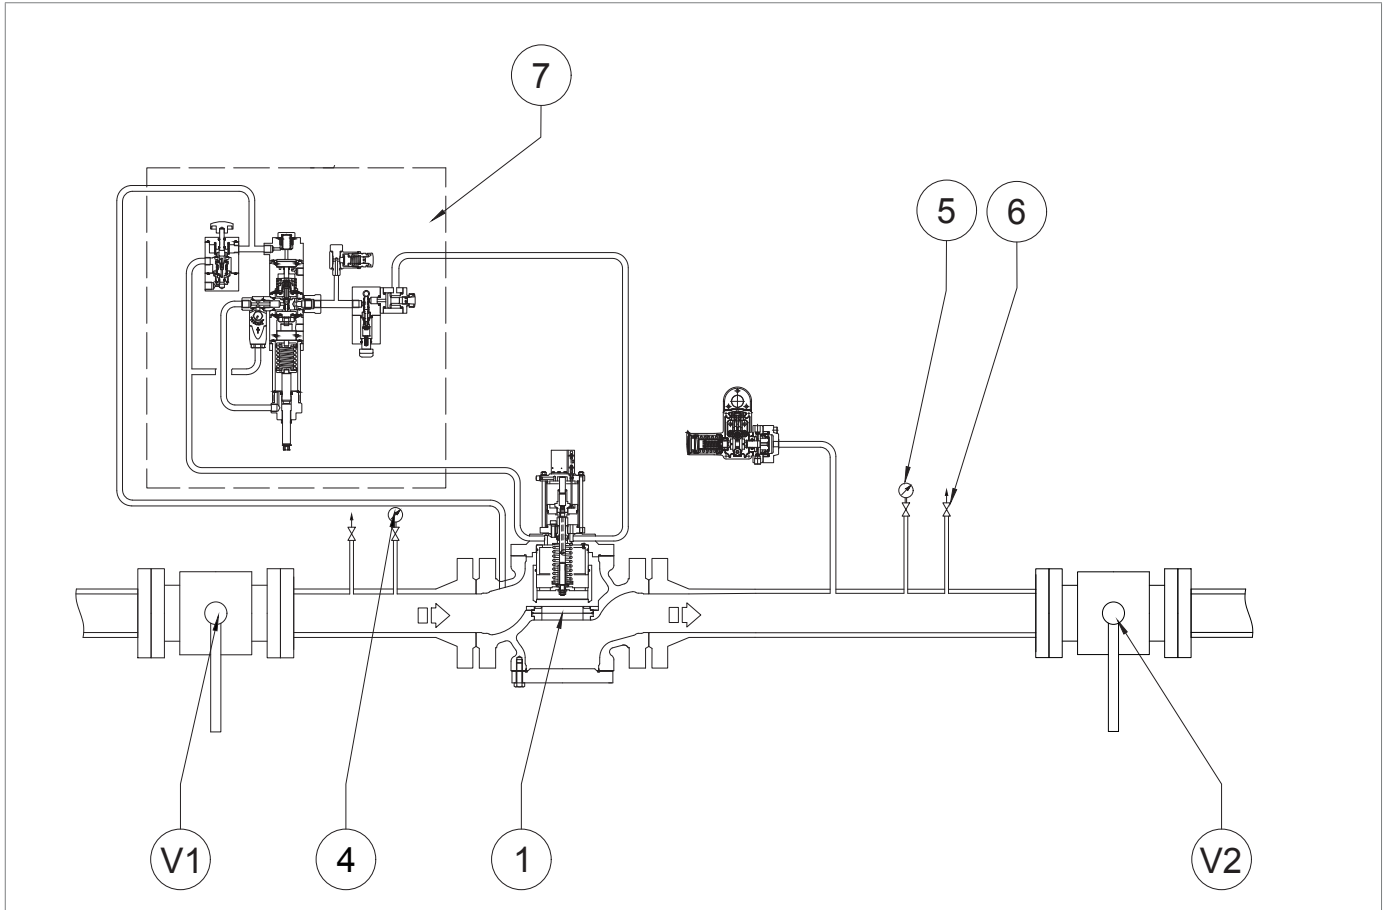

Fig. 8.11. Sealing of the HBC 975 slam-shut valve during shut-off
1	<p>By adjusting the main regulator, increase the downstream pressure up to the tripping value of the slam-shut valve, to check for proper calibration.</p> <div style="border: 1px solid blue; padding: 5px;"> <p>! NOTICE!</p> <p>Check the pressure referring to the pressure gauge (fig. 8.11, ref.5) downstream of the main regulator.</p> <p>If the slam-shut valve:</p> <ul style="list-style-type: none"> <li>• trips before the expected pressure value: screw in (clockwise) the adjustment ring nut (13) so as to further compress the spring (11);</li> <li>• does not trip at the expected pressure value: unscrew (anti-clockwise) the adjustment ring nut (13) so as to relieve the spring (11).</li> </ul> </div>
2	By opening the vent (fig. 8.11, ref. 6), decrease the pressure in the downstream section to the calibration value of the main regulator.
3	Close the vent (fig.8.11, ref. 6).
1	Open the vent (fig. 8.11, ref. 6) to the atmosphere and keep it open for the subsequent phases.
2	<p>Decrease the downstream pressure to the minimum tripping pressure of the slam-shut device by adjusting the pilot.</p> <div style="border: 1px solid blue; padding: 5px;"> <p>! NOTICE!</p> <p>Check the pressure referring to the downstream pressure gauge (fig. 8.11, ref.5).</p> <p>If the slam-shut valve:</p> <ul style="list-style-type: none"> <li>• trips before the expected pressure value: unscrew (anti-clockwise) the adjustment ring nut (15) so as to relieve the spring (17);</li> <li>• does not trip before the expected pressure value, screw in (clockwise) the adjustment ring nut (15) so as to further compress the spring (17).</li> </ul> </div>
5	Open the vent again (fig. 8.11, ref. 6).
10	Close the vent (fig.8.11, ref. 6).